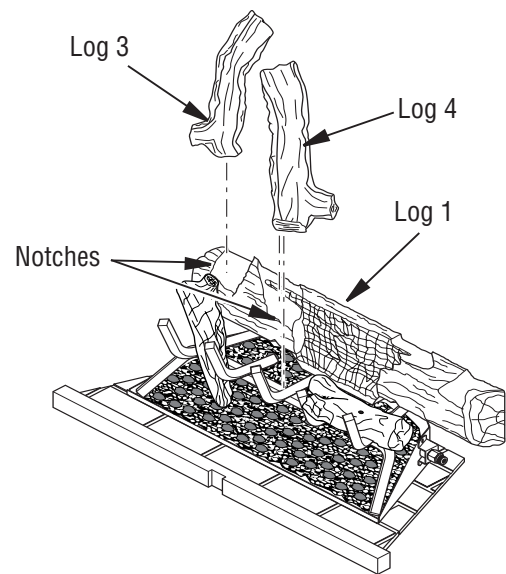
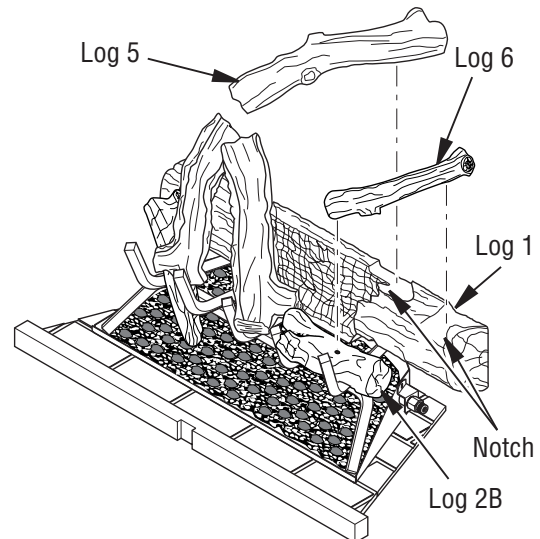
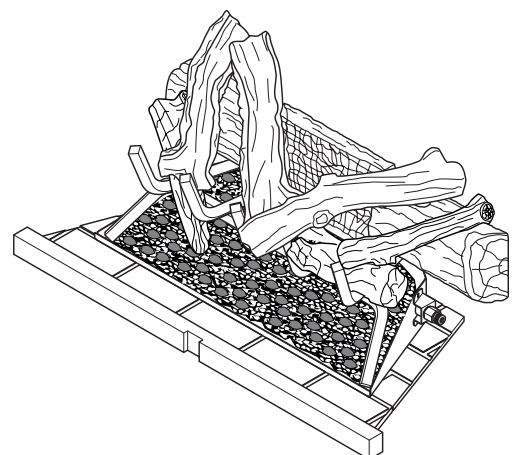

Figure 27 - Installing Logs 3 and 4
Figure 28 - Installing Logs 5 and 6
Figure 29 - Logs Installed for M42, M42P, VM42 and VM42P Models
3. Place log 3 into notch on top left of log 1, resting lower end on left two grate fingers (see Figure 27).
4. Place upper end of log 4 into notch on log 1 as shown in Figure 27. Rest lower end of log 4 on middle grate finger as shown in Figure 28.
5. Place upper end of log 5 into notch on top inner right of log 1 (see Figure 28). Rest lower end of log 5 on middle grate finger as shown in Figure 29.
6. Place log 6 into notch on top right of log 1 (see Figure 28). Rest lower end of log 6 on top of log 2B (see Figure 29).